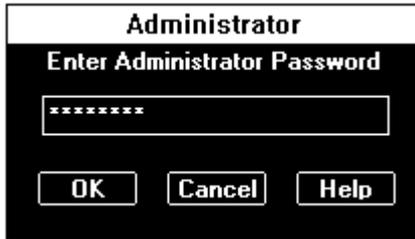

Figure 2-4. Administrator Window
6. On the Administrator window, enter the current System Administrator password for Card A (see Figure 2-4).